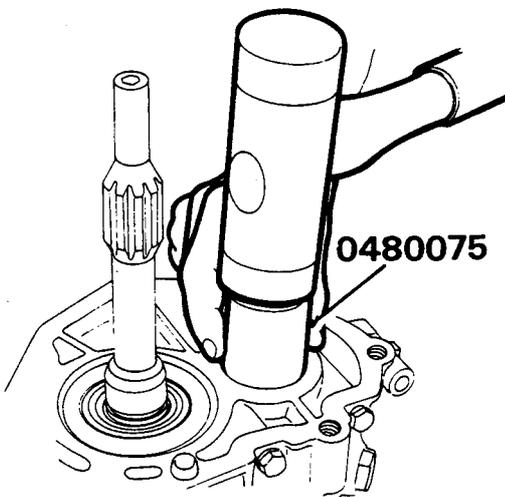

Fig.41 Squaring front layshaft bearing cup
36. Use 0480075 to square front layshaft bearing cup in main casing (see fig 41), at the same time turn input shaft to track bearings.